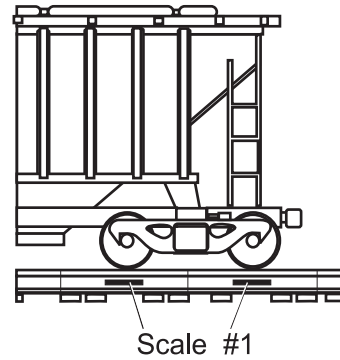

Figure 1
2. Move the first truck of car onto the scale and position wheels in the center of the Weighline sections. See Figure 1. . . Indicator will display first truck weight.